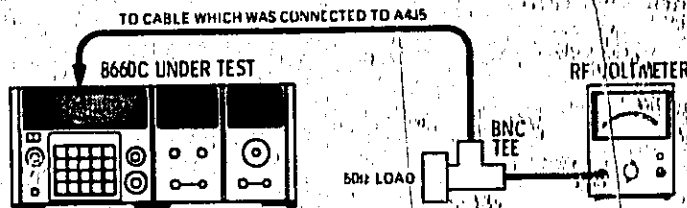

Figure 5-9. A22A1 Adjustment Test Setup
3. Remove 10 MHz Reference input cable from A4J5. Connect the cable to the RF Voltmeter as shown in Figure 5-9.